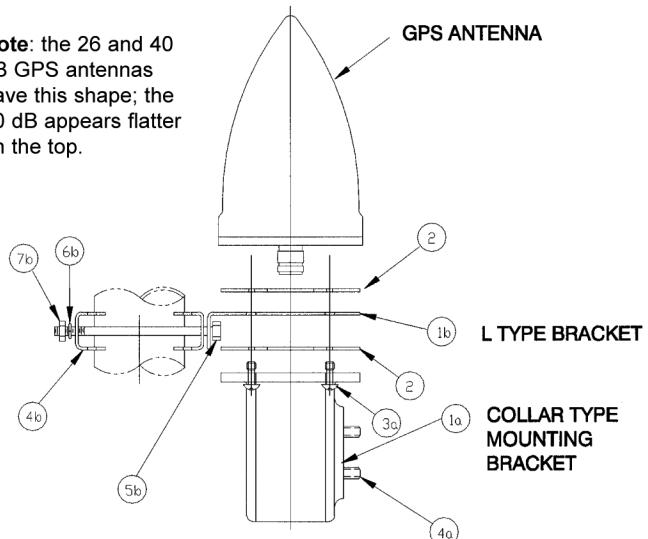
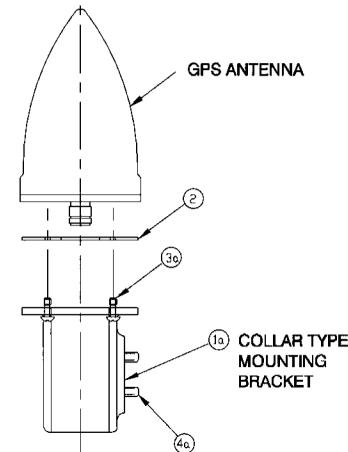
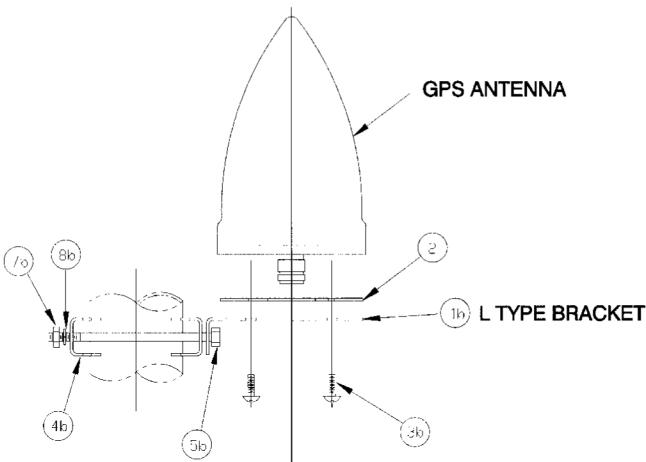

Figure 1: Standard Mount Assembly
Figure 2: Collar Bracket Mount Kit
Figure 3: L-Bracket Mount Kit
Refer to Figure 1. The Collar Bracket Mount Kit includes these parts:
Refer to Figure 1. The L-Bracket Mount Kit includes these parts:
**Note:** The Standard Mount Kit contains two mounting bracket types. The two brackets can be used together, as shown in the Standard Mount Kit shown in Figure 1, separately as the Collar Bracket Mount Kit shown in Figure 2, or separately as the L-Bracket Mount Kit shown in Figure 3.
Refer to Figure 1.
Refer to Figure 2.